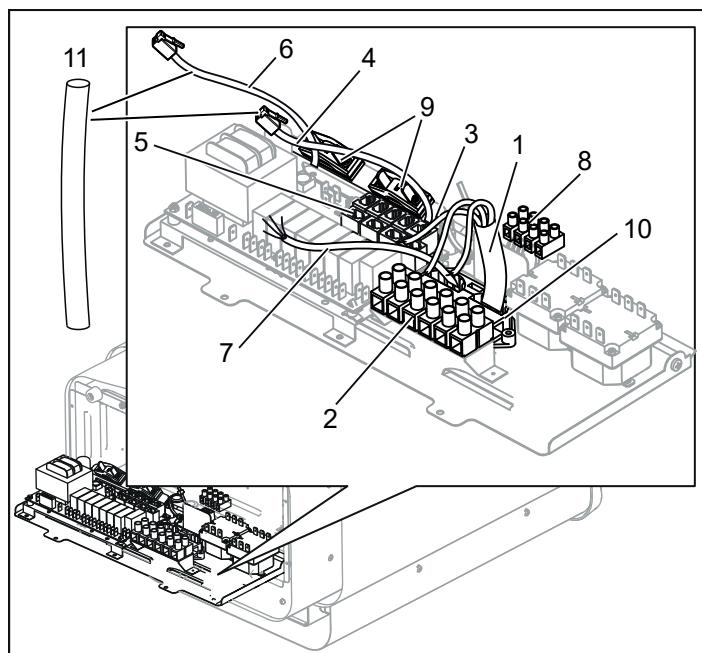
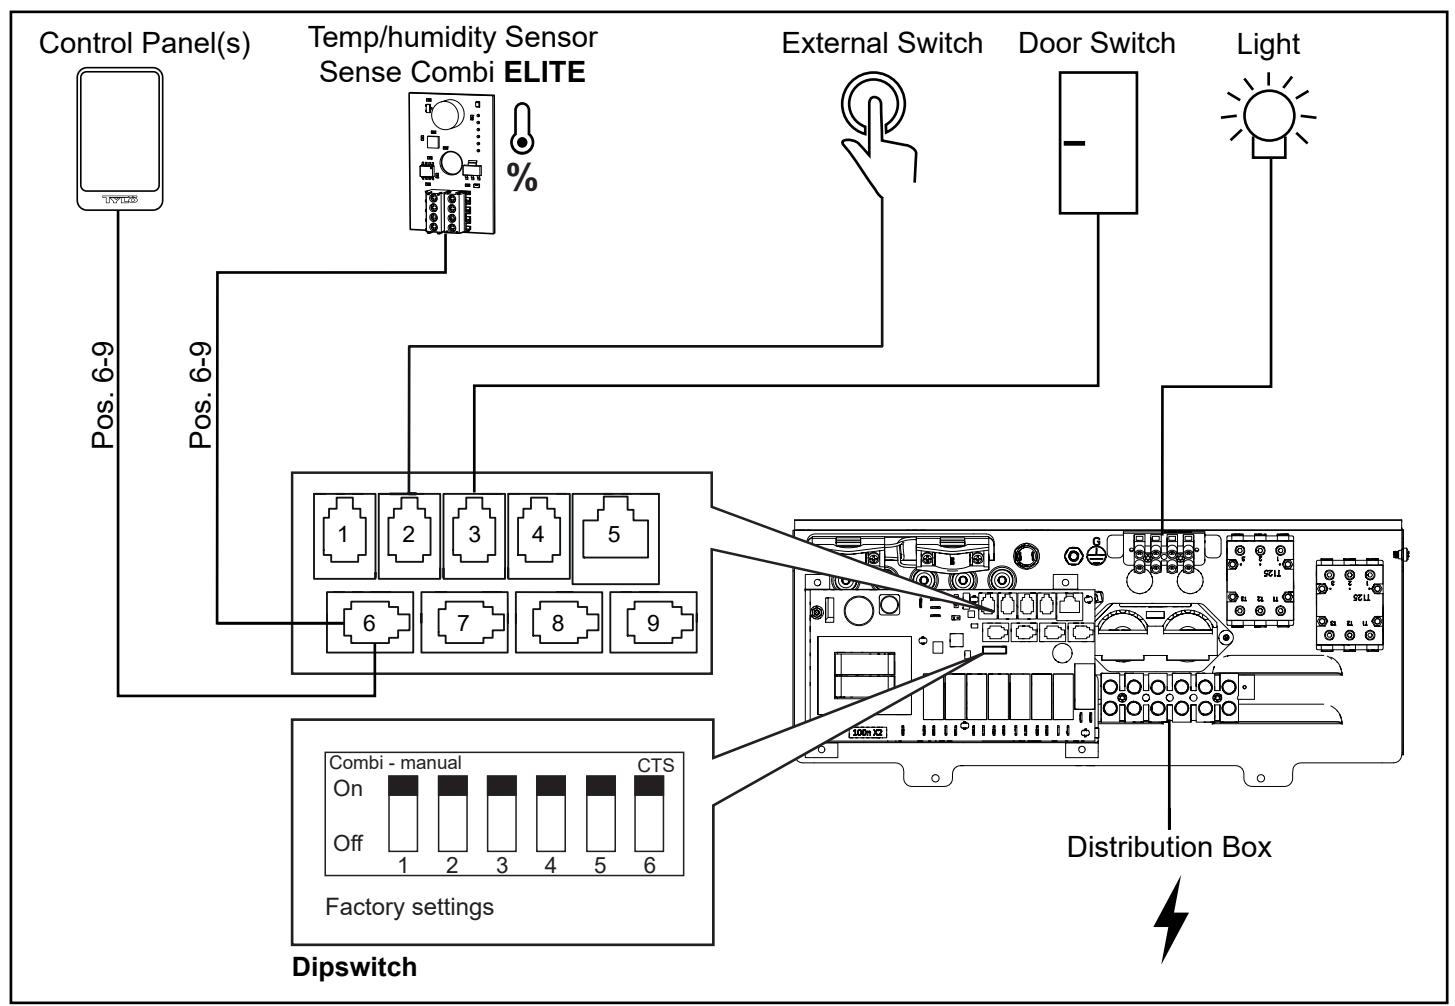
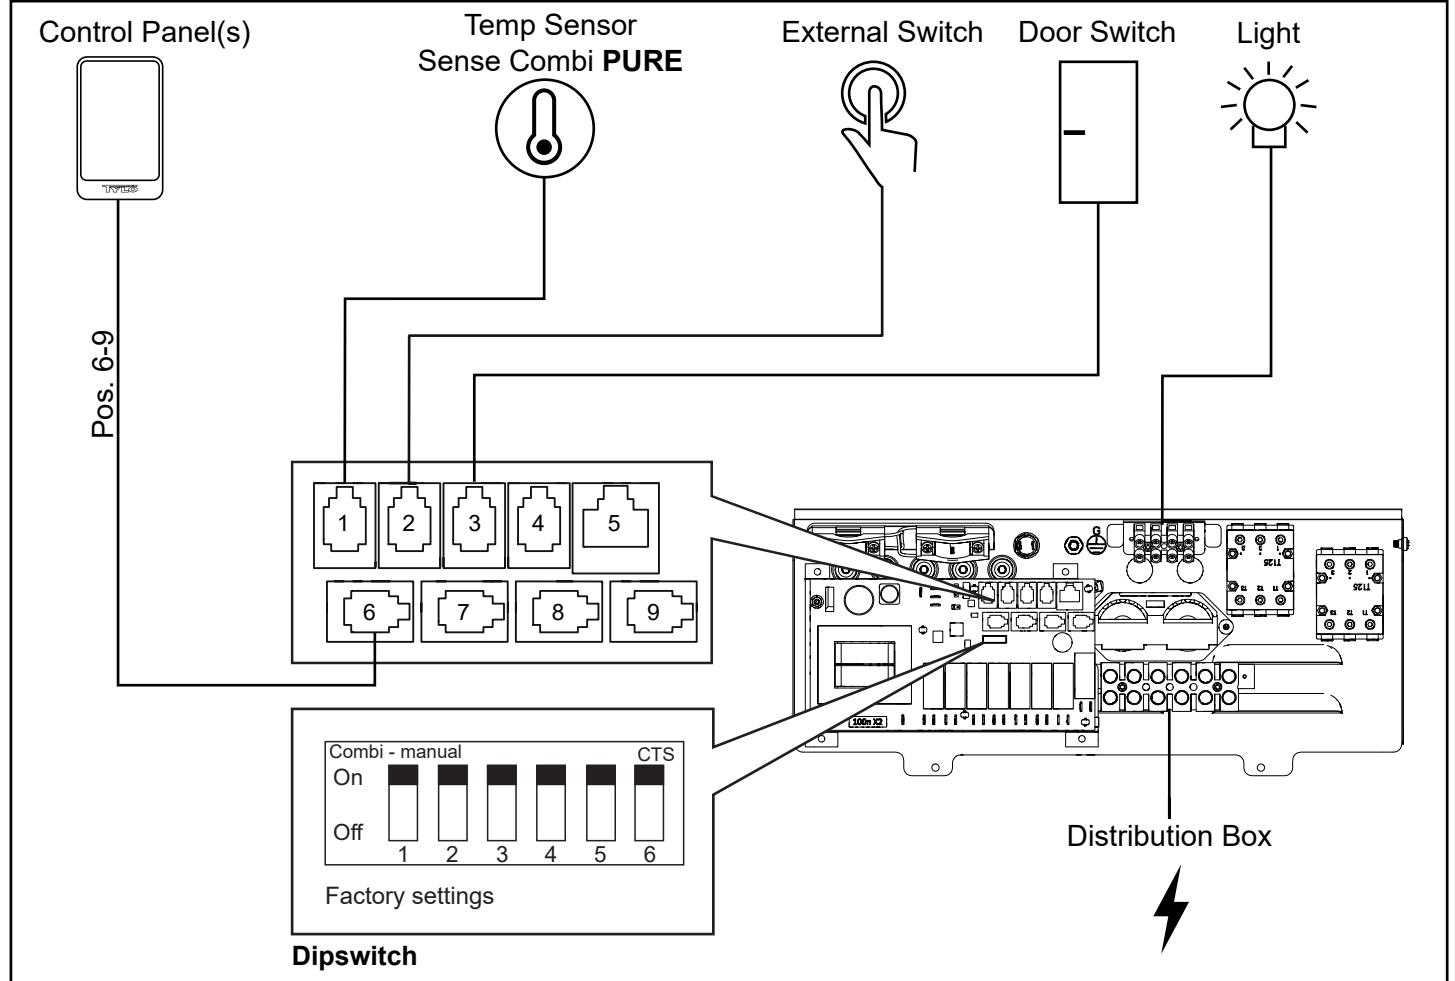

Figure 10: Circuit board
Figure 19. Schematic diagram of installation Sense Combi Elite
Figure 20. Schematic diagram of installation Sense Combi Pure
4. Connect the electrical cable (see Figure 10) according to the wiring diagram (see Figure 17).
5. Run the cables for the control panel and the temperature sensor through the cable grommets (see Figure 10). Connect the control panel cable to one of the four RS485 contacts (positions 6-9) (see Figure 19, 20).
6. **Combi Pure:** Connect the sensor cable to the NTC contact on the circuit board (position 1) (see Figure 20). **Combi Elite:** Connect the humidity- and temperature sensors cable to one of the four RS485 contacts (positions 6-9) (see Figure 19).
7. Connect the light cable (if relevant) (7), see Figure 10, according to the wiring diagram Figure 17.